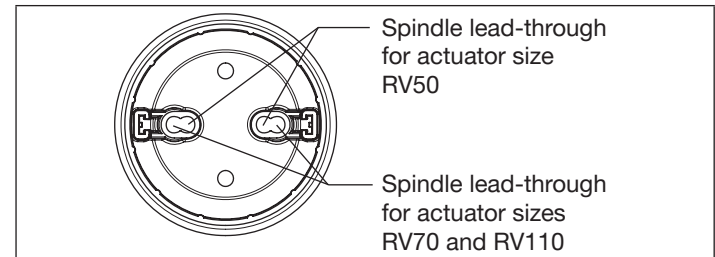

Fig. 9: Spindle lead-through
- ▶ Use only the spindle lead-through that matches the actuator size (see “Fig. 9”).
→ Push the switch spindles through the matching spindle lead-throughs. The outside lead-throughs are designed for actuator size RV70/110, while the inside lead-throughs for actuator size RV50 (see “Fig. 9”).